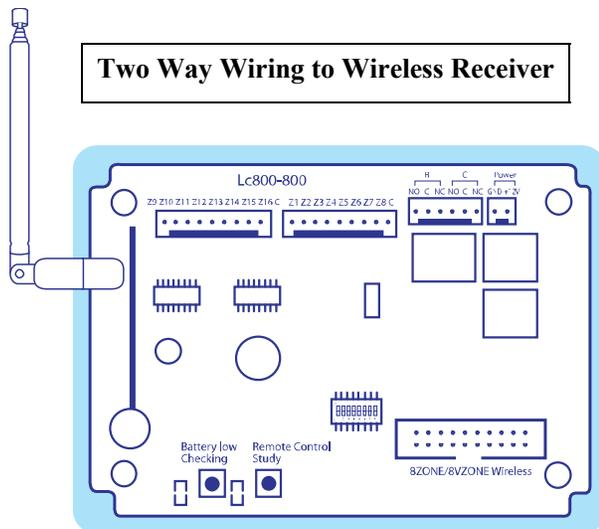

Figure 3
Step 1: Press the “**Remote Control Study Button**” as indicate in figure 3; hold button for **5** seconds, **Red Led** will turn on.